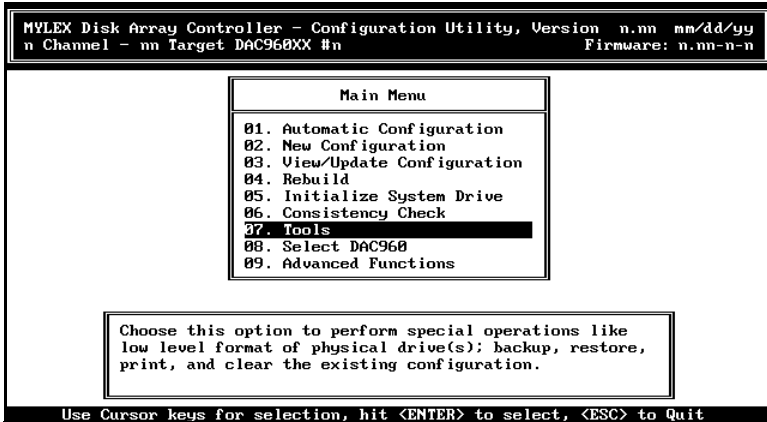

Figure 3-9. Tools Option
- Activate the Tools menu (Figure 3-9) by selecting **Tools** from the Main menu.